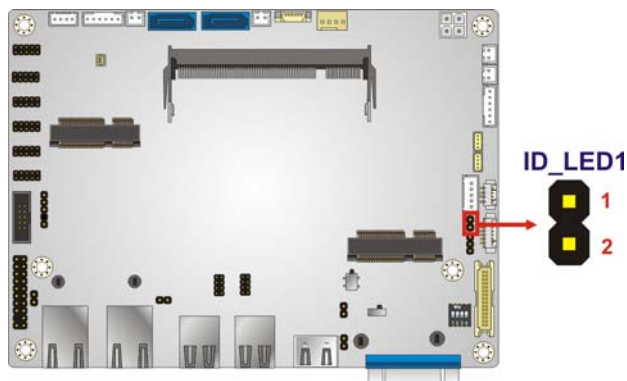

Figure 3-10: IPMI LED Connector Location
- CN Location: See **Figure 3-10**